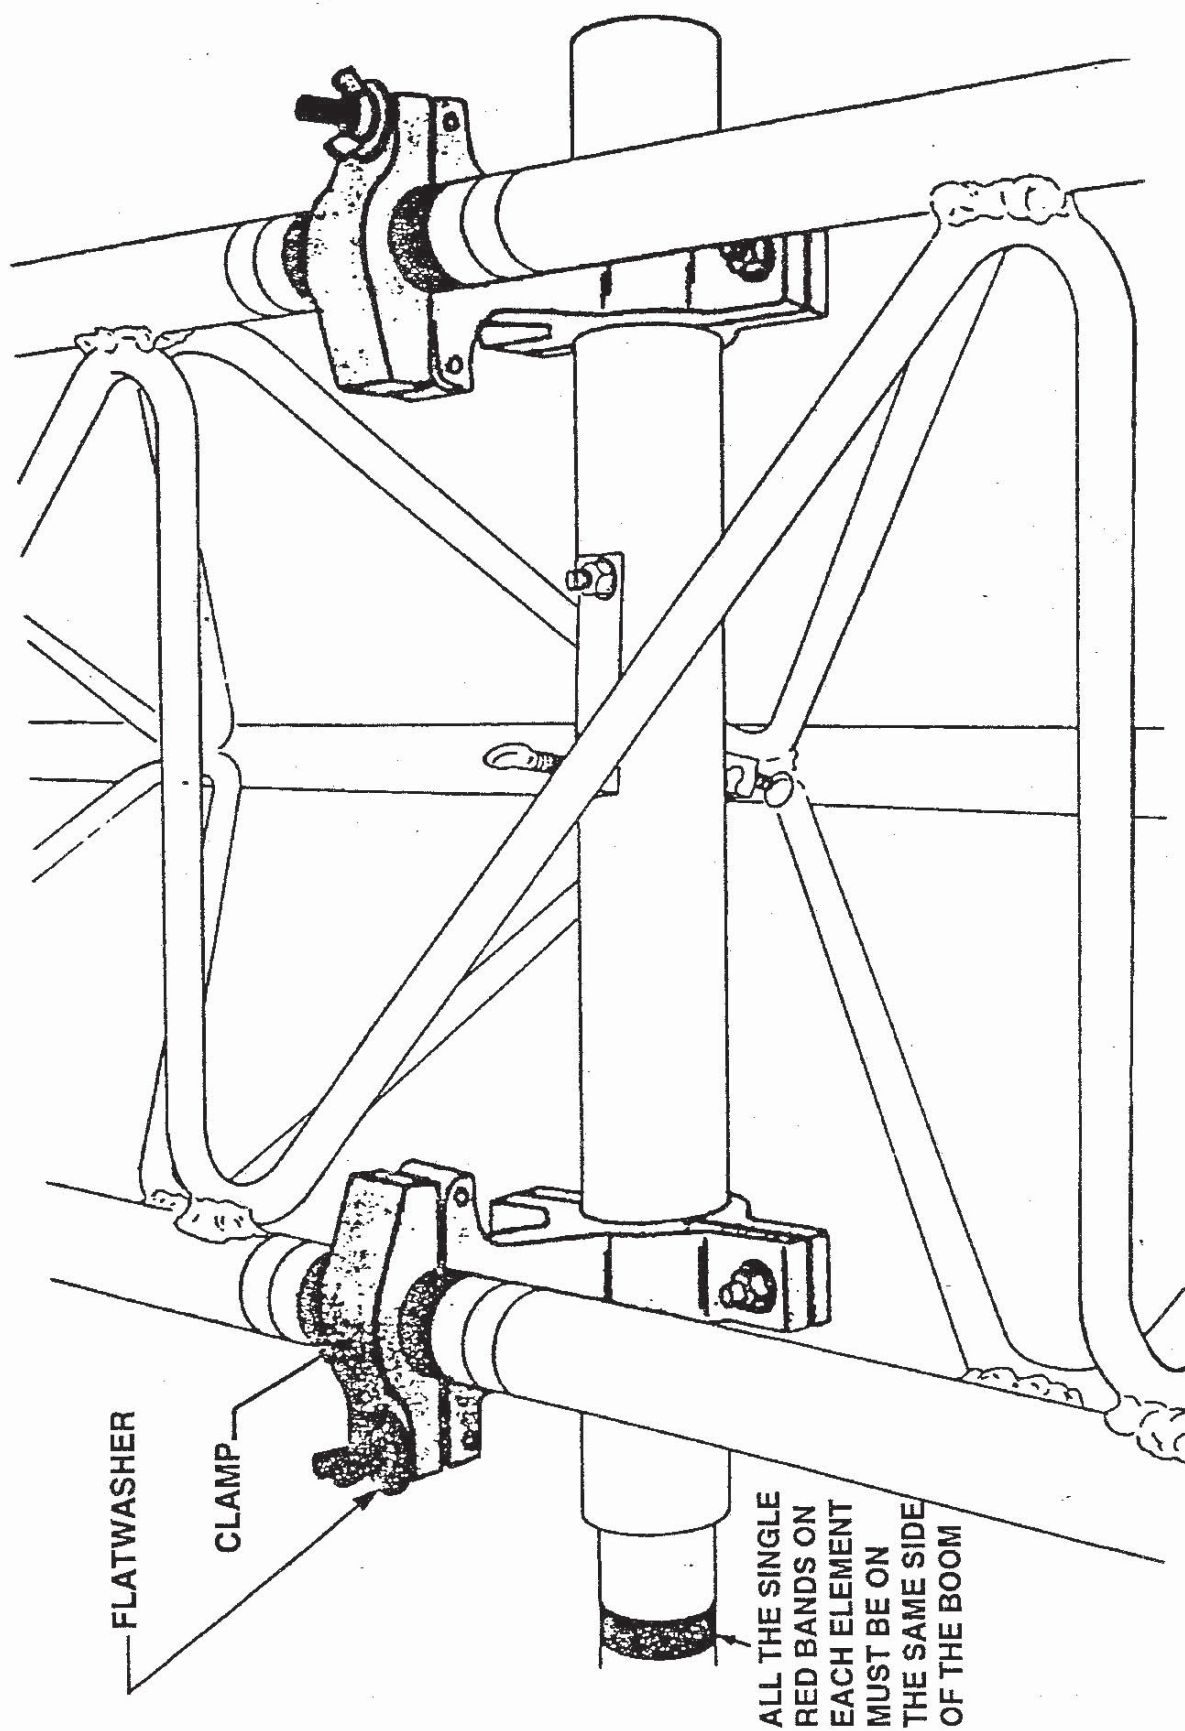

Figure 2-36
- j. Two men install the center insulator assemblies in their proper locations and secure them to the boom as shown in Figure 2-36.